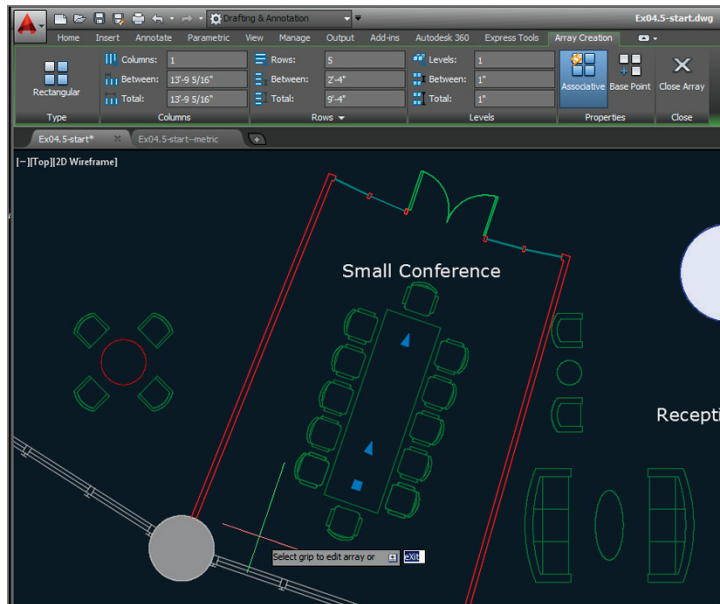

FIGURE 4.19 Creating a rectangular array by changing parameters on the ribbon
3. Change Columns to 1 and Rows to 5 on the temporary Array Creation tab that appears on the ribbon. Type **2'4 (72 for metric)** in the Between text box in the Rows panel and press the Tab key (see Figure 4.19).